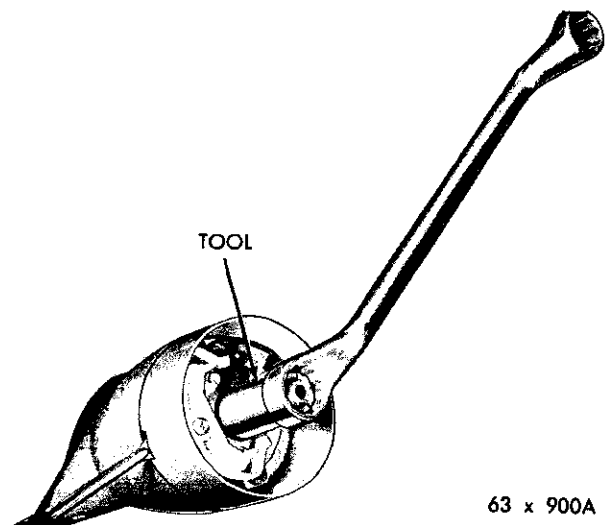

Fig. 30—Installing Jacket Tube Bearing
(5) Install the jacket tube support bracket clamp at the instrument panel. Tighten the clamp bolts to 50 inch-pounds torque.
(6) Position the snap ring against the top of the bearing and place the installing tool sleeve C-3879, then a flat washer and the steering wheel nut on the top end of the steering shaft in that order. (Fig. 30).
and the steering wheel retaining washer and nut on the steering shaft in that order (Fig. 30).